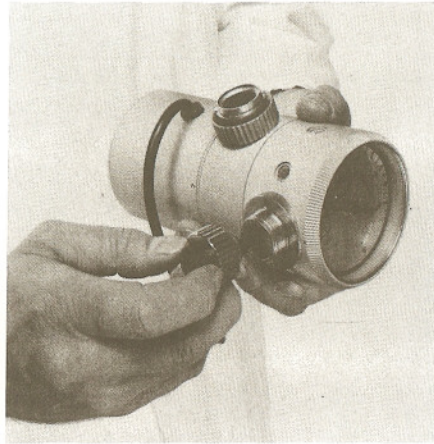

Fig. 5 Plugging in the plug of the monitoring light
- 2 Insert the plug of the monitoring light 9 into the screw connection 5 and then tighten the screw cap (Fig. 5).